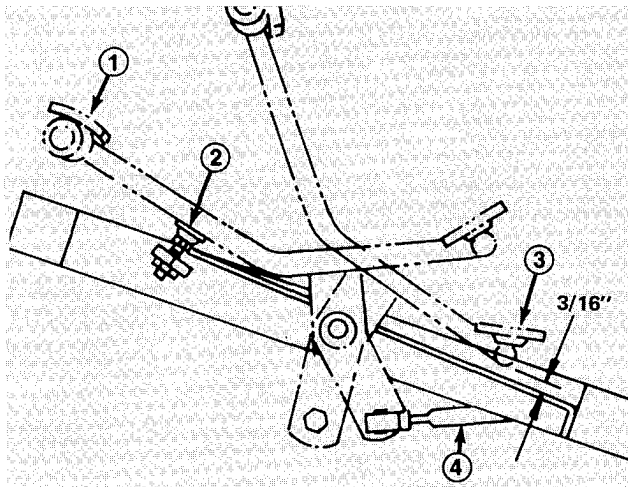

Figure 46
ADJUSTING TRACTION PEDAL (Fig. 46)
2. Check distance between bottom of pedal and footrest as shown in Fig. 46. Distance should be approximately 3/16". If distance is greater or less than 3/16" dimension, an adjustment to the traction control rod is required.
(Fig. 46)